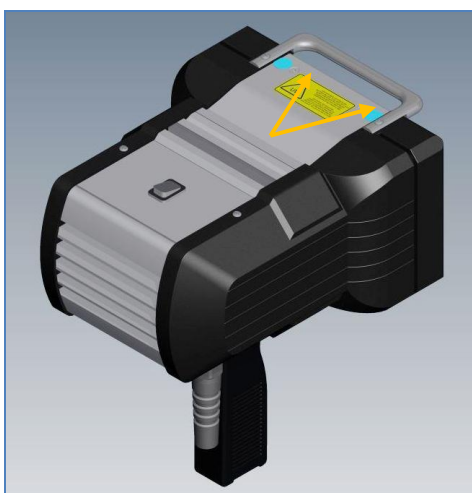

Fig. 2: Fixing screws for safety glass unit (top side and underside of the housing)
- Release the two **inner** fixing screws on both the top side and underside of the housing (see Fig. 2).